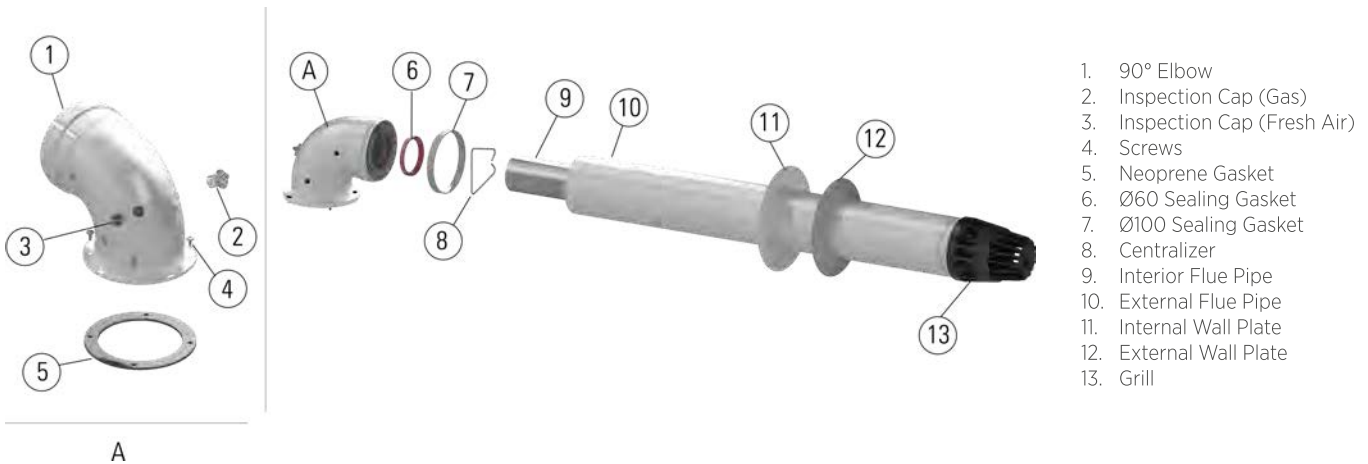

Figure 11 Hermetic Heat Only homocentric flue set.
- Fix the flange under the elbow piece (1) by using the Flange Bolt (5) via Flange Connection Screws (4) to holes on the Heat Only.
- 2 x Ø60 Sealing Gasket (6) are placed into internal pipe slots at both ends of the 90° elbow.
- Place the Ø100 Sealing Gasket (12) on the 90° elbow contacting with the restrictive set.
11-12. for grouping the flue output terminal. After placing the flue output terminal through exterior of wall and the previously made hole, fix the Internal Wall Plate (11) into the flue terminal. Place, 90° flue elbow of your Heat Only coupled tightly to the flue output terminal (Figure 12). Then fit the outer and inner wall flanges (Fig.11_11-12) on the terminal pipe (Fig.12). Finally, push the Internal Wall Plate to the wall surface and ensure flue and wall impermeability.